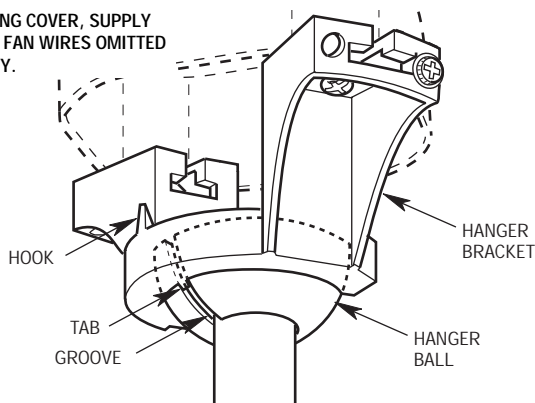
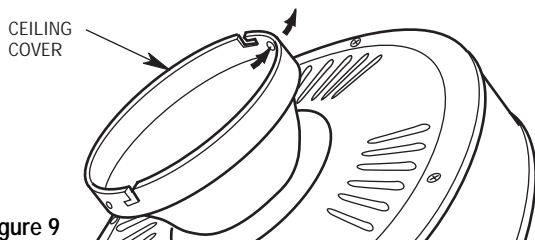

Figure 8
Figure 9
- Carefully lift the fan assembly and seat the hanger ball in the hanger bracket (Figure 8). The tab on the hanger bracket must seat in the groove in the hanger ball.
- Carefully lift the fan assembly up to the hanger bracket. Pass the hook on the hanger bracket (Figure 8) through one of the screw holes (not the slots) in the ceiling cover (Figure 9). The hook must pass from the inside of the ceiling cover to the outside. The hook will hold the fan assembly while connecting the wiring.